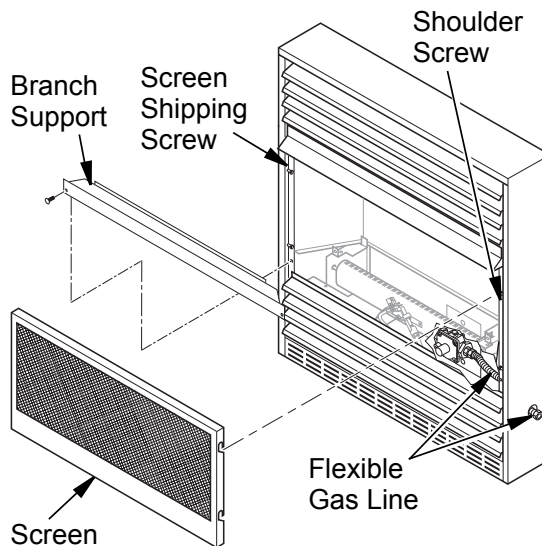

Figure 23 - Removing Log Base Assembly From Fireplace
2. Remove screws that attach branch support to fireplace (see **Figure 23**). Carefully lift up branch support and remove from fireplace (see **Figure 23**).
NOTICE: Most building codes do not permit concealed gas connections. A flexible gas line is provided to allow accessibility from the fireplace (see Figure 23). The flexible gas supply line connection to the equipment shutoff valve should be accessible.